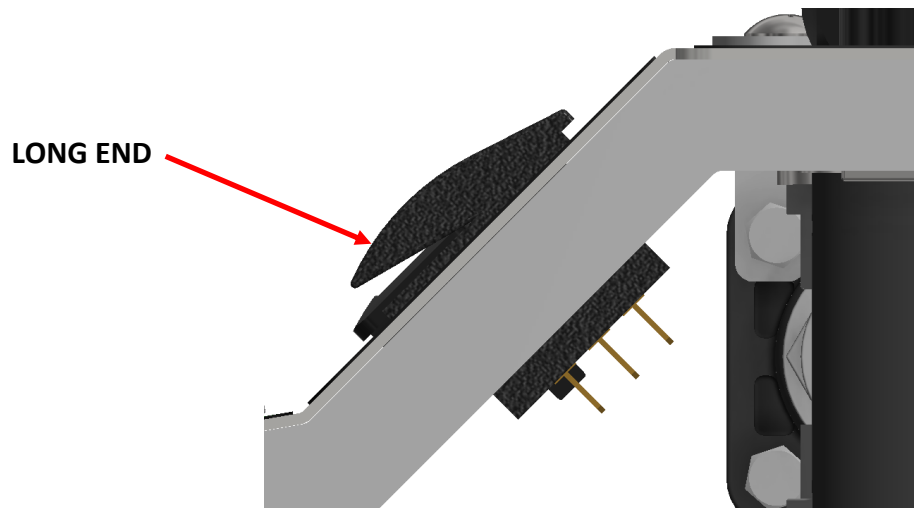

Fig. 2
- The long end of the switch faces down (Fig. 2).
*2020 or older machine with this type of connection. Use red and blue connections from the harness to connect in-line to the single wire connection of the pump switch. (Fig. 2).*
**PUMP SWITCH TERMINAL Fig. 2**